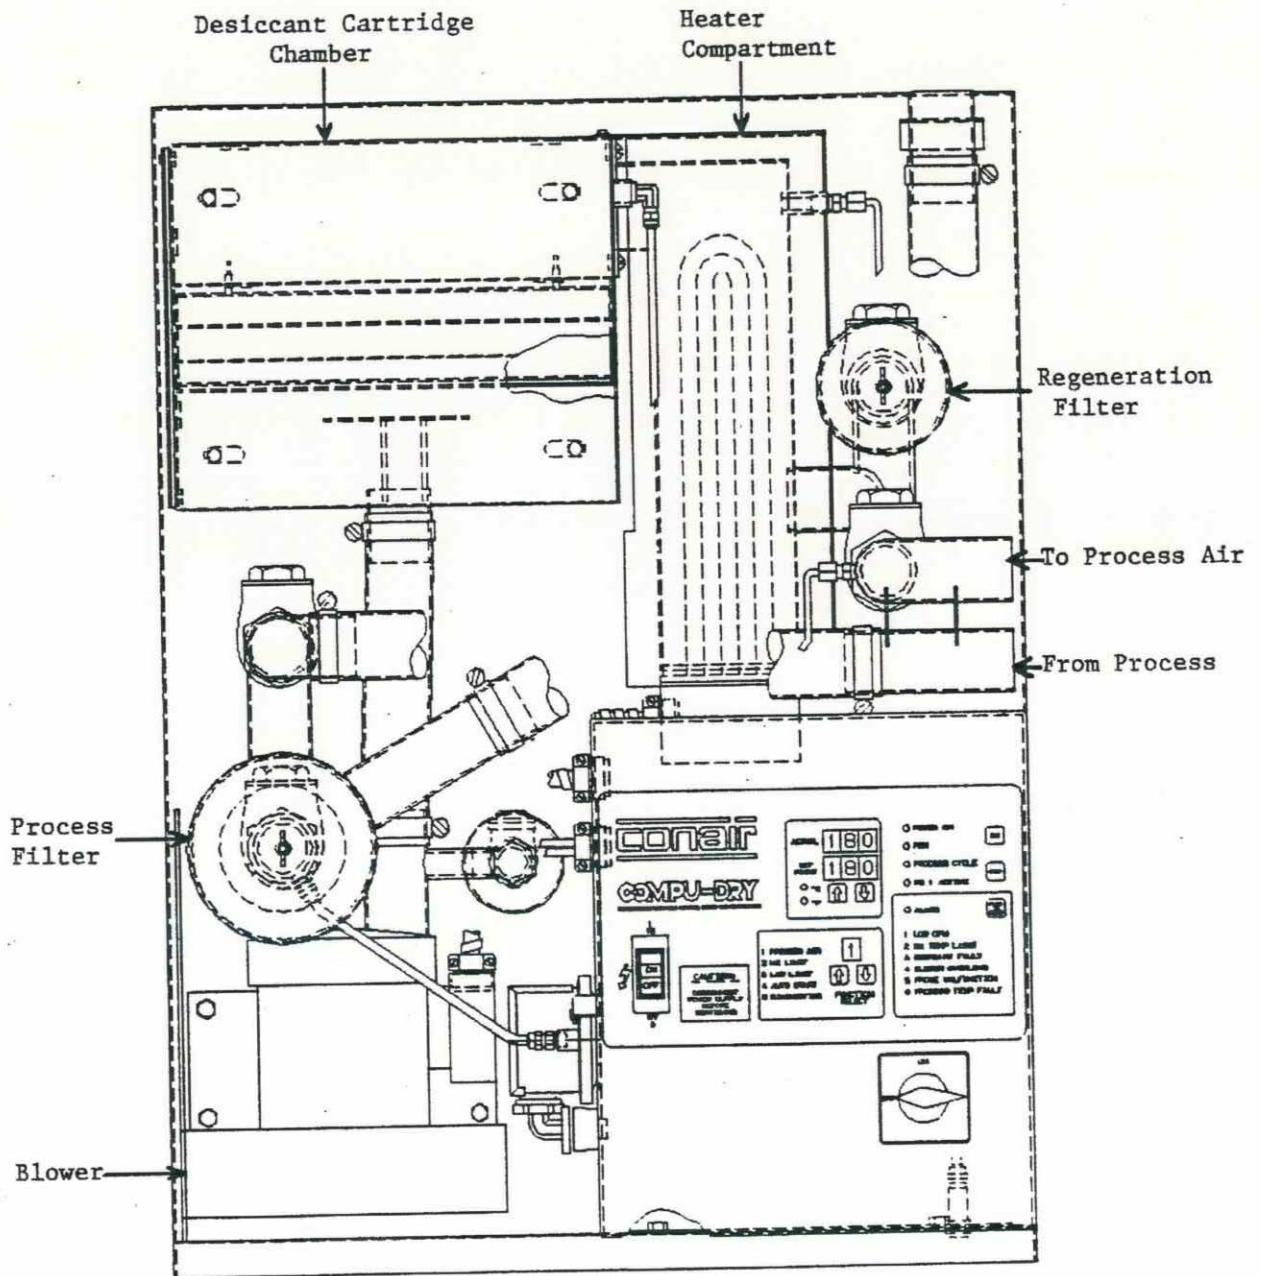

Figure 5
(See Figure 5)
The heating elements in your Conair Dryer require no routine maintenance. After a very long term of service, however, elements may eventually require replacement. Should the elements need replaced, care should be taken in rewiring the new elements the same as the defective ones. See Figure 5 for heating element location and check your parts list for the replacement.
4. Are all the hoses properly connected, not only externally but also internally? (see Figure 5)